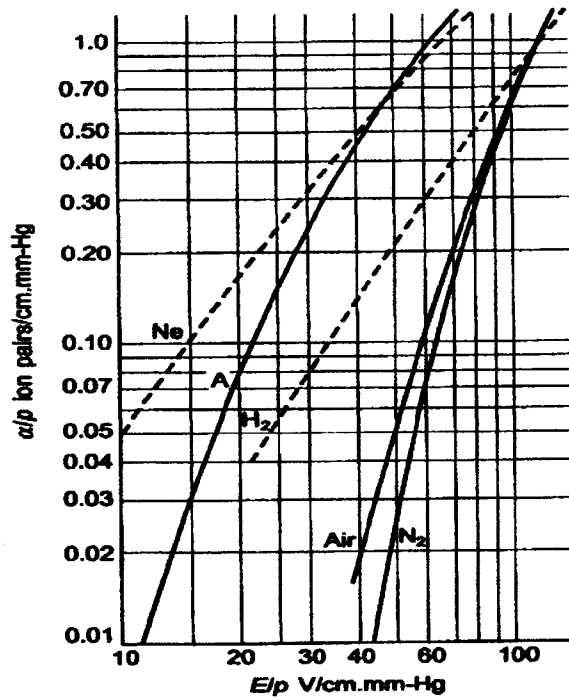

FIGURE Q1(c)
- (b) Summarise one (1) formation mechanism that typically being considered under the Streamer breakdown theories. (2 marks)
- (c) Calculate the static breakdown voltage E_b in kV/cm of an H_2 at 80 mm.Hg pressure between two parallel plates that ensure a uniform field. α/p as a function of E/p can be determined from the coefficient for field-intensified ionisation by electrons graph shown in Figure Q1(c). Assume $\gamma = 10^{-3}$ electron/incident positive ion. The gap distance is 15 mm. Neglect recombination and attachment. (4 marks)
- (e) In some early cases, the power system equipments at the higher voltages were introduced before the principles are fully understood, in which cause problem during the application in the field. Propose three (3) examples of the problems. (6 marks)
- (b) Summarise two (2) characteristics of the dielectric material together with its appropriate application example. (2 marks)